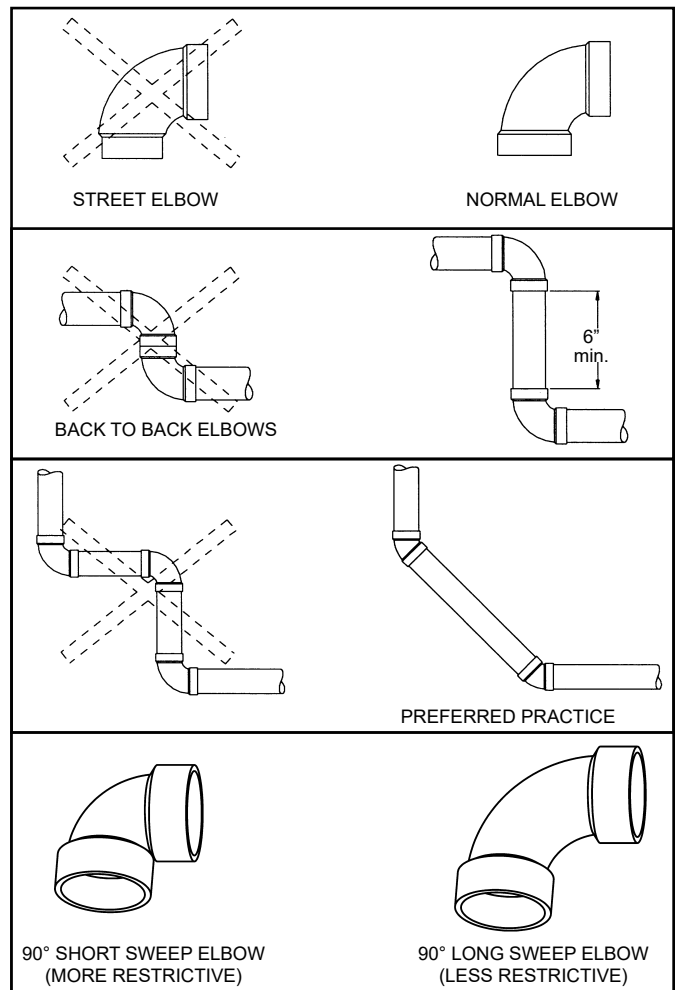

Figure 29.
Note: The information provided in Figure 29 is intended as a guideline for good vent installation practices only and is not intended to restrict venting options beyond those restrictions established by the current edition of the “**National Fuel Gas Code**”, ANSI Z223.1/NFPA 54 or any applicable local and state codes.
- Avoid using 90° elbows “back to back” and do not use street elbows. Maintain a minimum 6” straight section between elbows. Closely coupled and short radius elbows reduce the venting capacity. Figure 29 shows examples of vent pipe connections.